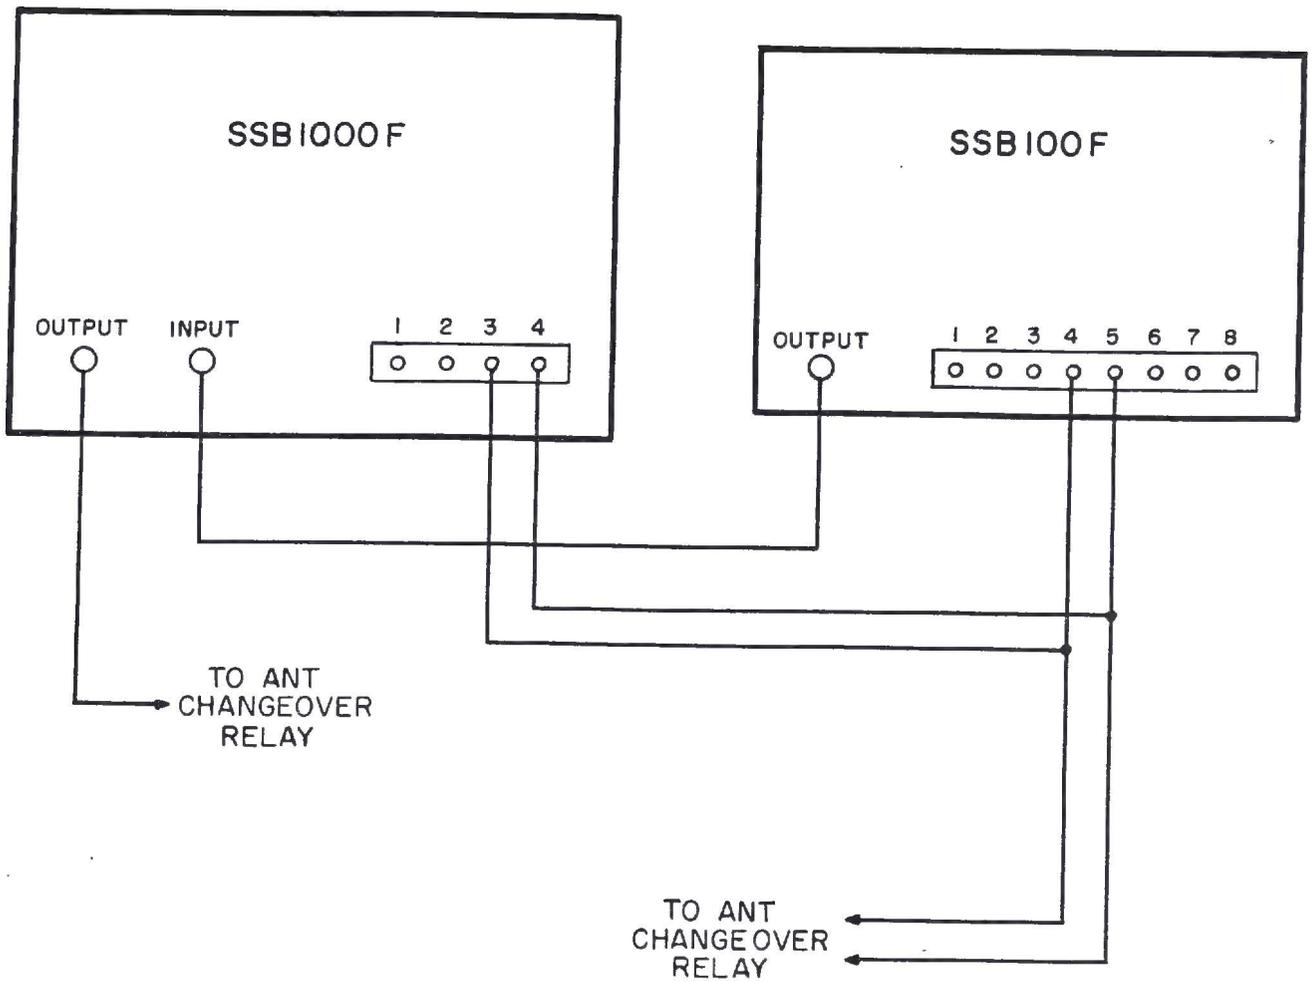

FIGURE 1
C. Terminal Strip, Terminals 1 and 2: Terminals 1 and 2 have 117 volts AC present when the High Voltage Plate Switch is ON. They are to be used for "Hi-Lo" power operation as described in Section III, Paragraph 4, and Figure 1.
D. Terminal Strip, Terminals 3 and 4: Terminals 3 and 4 are connected to the bias switching relay in the SSB-1000F and must have 117 volts AC applied to them when the exciter is in the Transmit position. See Figure 1.